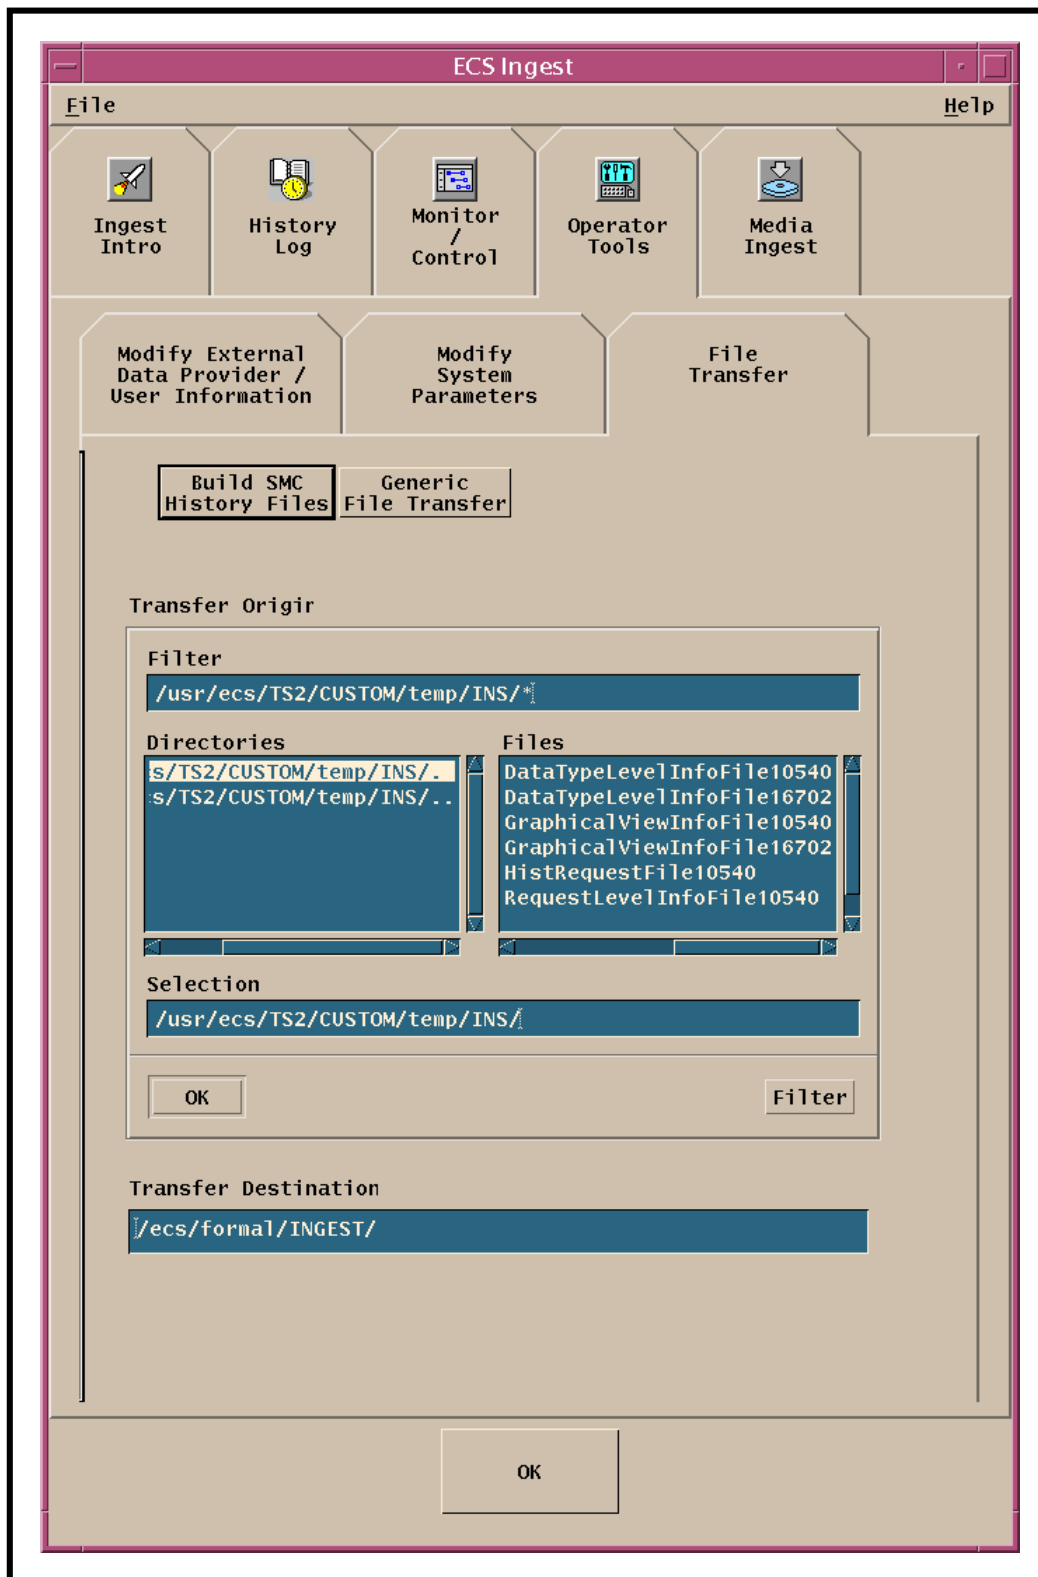

Figure 32. Ingest File Transfer Screen
- The **File Transfer** screen (Figure 32) is displayed.